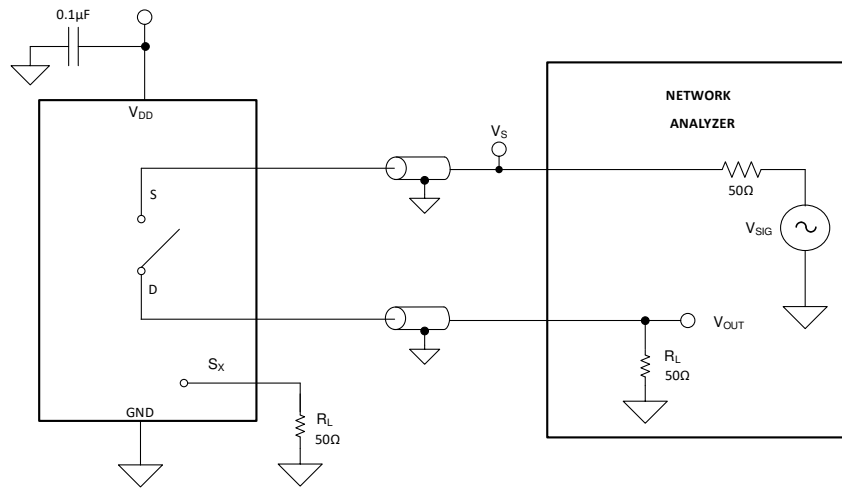

図 6-7. Off Isolation Measurement Setup
Off isolation is defined as the ratio of the signal at the drain pin (D) of the device when a signal is applied to the source pin (S_x) of an off-channel. 图 6-7 shows the setup used to measure, and the equation used to calculate off isolation.